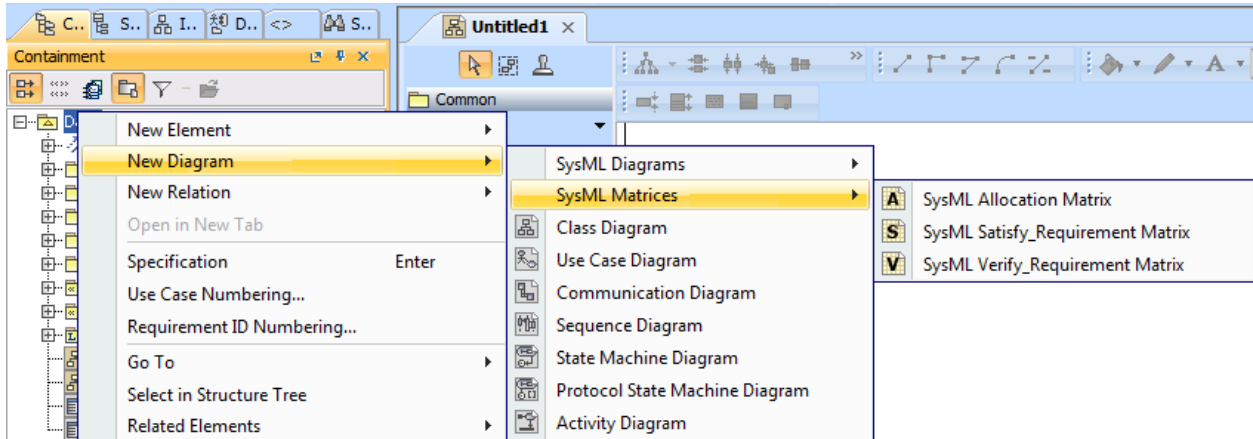

Figure 262 -- SysML Matrices Menu in Browser
1. Right-click the element, which will be the owner of the SysML Editable Matrix, in the Containment Tree. The element shortcut menu will then display (Figure 262).